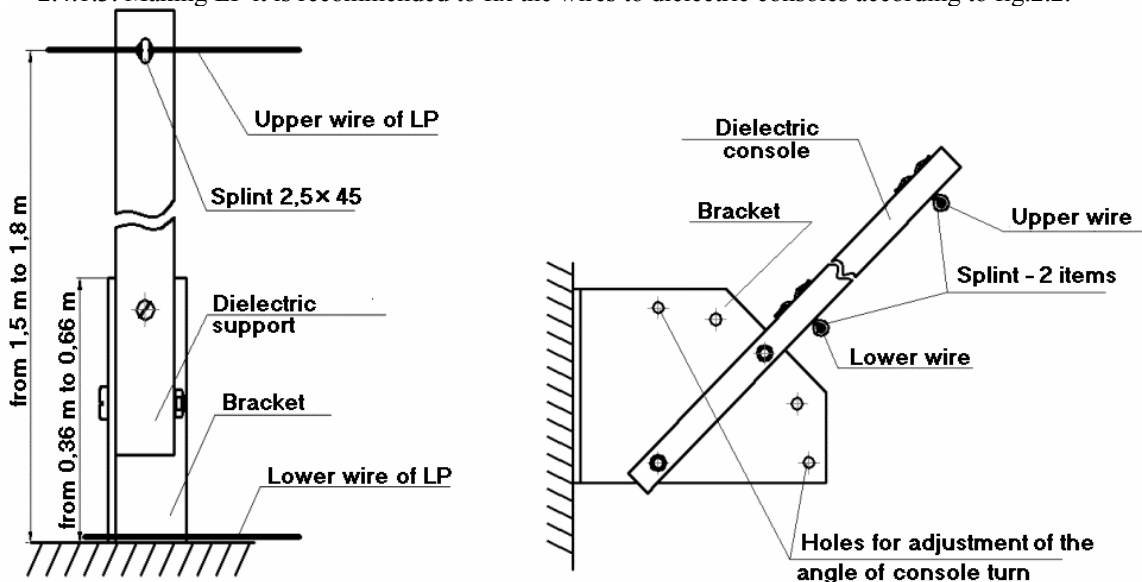

Fig.2.2. Wires fixing of LP detector
2.4.1.3. Making LP it is recommended to fix the wires to dielectric consoles according to fig.2.2.